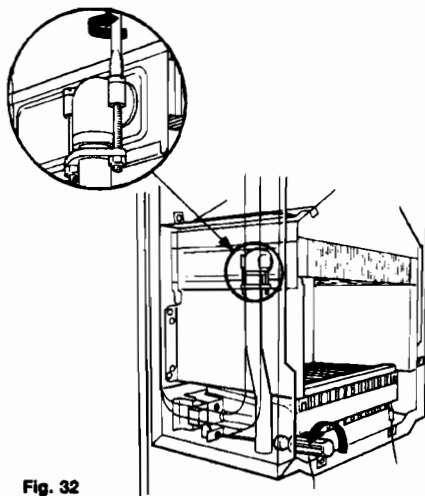

Fig. 32
Refer to Figs. 32 and 33.
- 8.8.8** Disconnect upper flanges by removing 2 screws on each flange (fig 32). Slide out main heat exchanger, taking care not to damage insulation panels. Avoid spillage of water on boiler electrics.